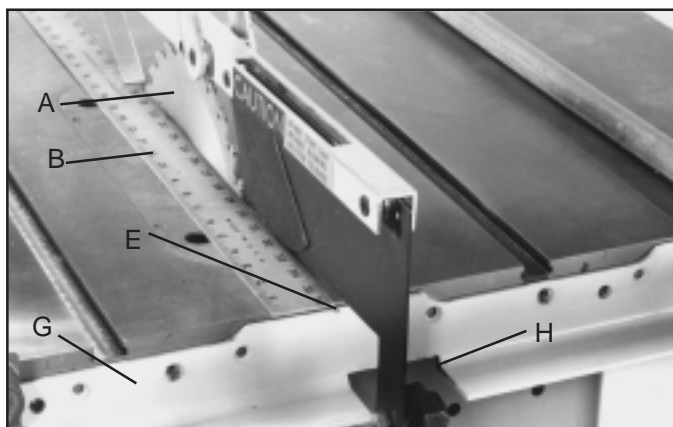

Fig. 17
5. Clamp rear rail (G) Fig. 17, to back of saw table using bar clamps making certain notch (E) in rail is aligned with saw blade (A) as shown, using straight edge (B). Make sure the two cutouts in the rail are below the bottom of the miter slots in the saw table.
7. After fastening the rear rail to the saw table, tilt the saw blade to make certain there is no interference between the saw guard and the rear rail. If there is, it will be necessary to enlarge the cut-out (H) Fig. 17, in the rear rail.